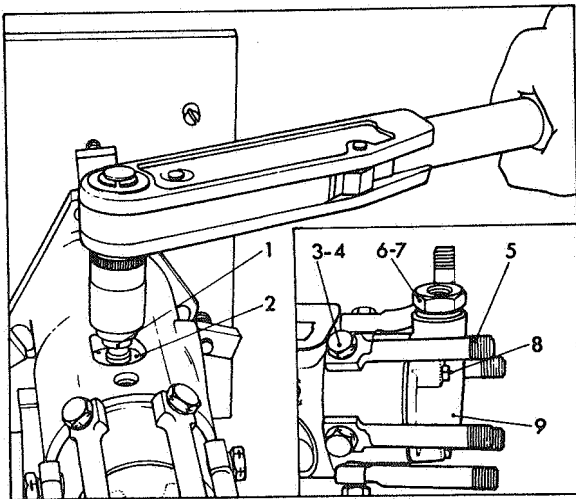

Fig 5 Loosening cam advance screw
Using Tool Part No 7144-14 as shown in Fig 5, slacken cam advance screw (1). If necessary, lightly tap cam advance screw to release cam ring (2). Invert the fixture in vice. Remove fuel connection studs and washers (3 & 4) and banjo connections (5) noting their position and type, also the letter identification against the outlet holes.